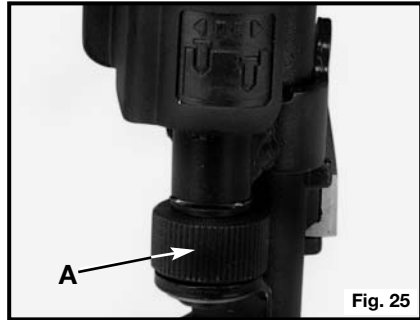

Fig. 25
The depth to which a fastener is driven is controlled by the depth adjustment knob (A) Fig. 25. The depth of drive is factory adjusted to a nominal setting. Test fire a fastener and check depth. If a change is desired, rotate the adjustment knob (A) Fig. 25. The adjustment knob has detents every 1/4 turn. Rotate the knob (A) Fig. 25 counterclockwise to increase the depth of drive, rotate the knob clockwise to decrease the depth of drive. Test fire another fastener and check depth. Repeat as necessary to achieve desired results. The amount of air pressure required will vary depending on the size of the fastener and the material being fastened. Experiment with the air pressure setting to determine the lowest setting that will consistently perform the job at hand (Fig. 25B). Air pressure in excess of that required can cause premature wear and/or damage to the tool.